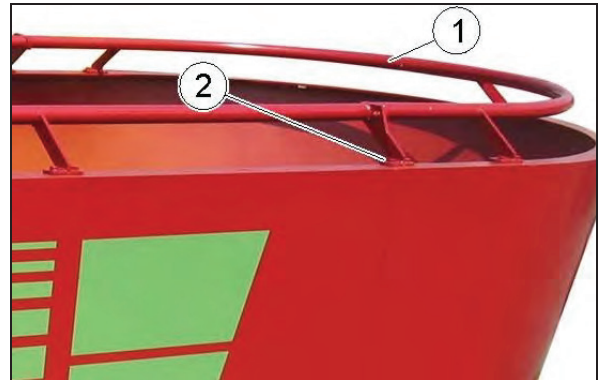

Fig. 67
- an elevated overflow ring (Fig. 67), screwed on the top edge of the container,